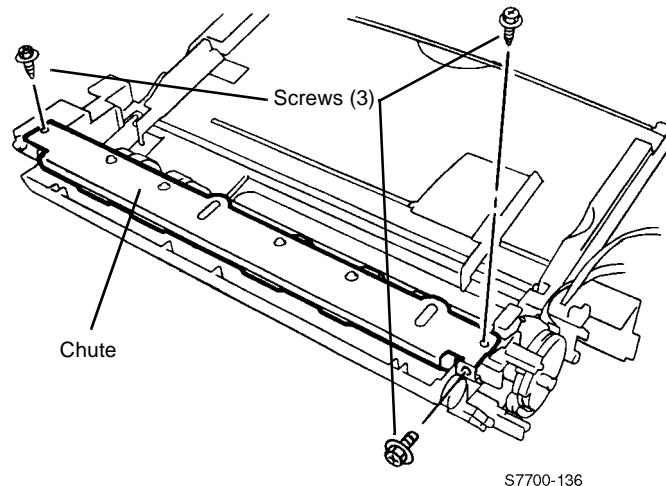

Figure 1 Removing Chute
6. Remove the Chute (Figure 1).
- a. Remove Screws (3).